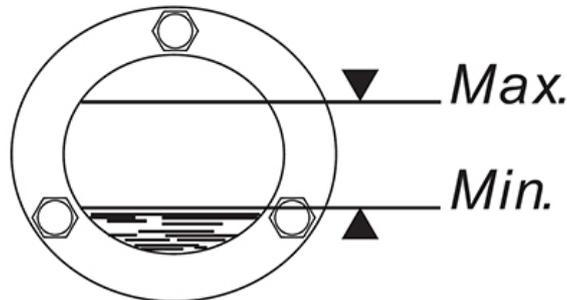

Figure 11-1 Oil level range
- d. Control the amount of lubricant in the range of the horizontal position as shown in Figure 11-1;